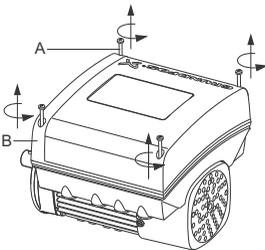

Fig. 73 Removing the terminal box cover
1. Loosen the four screws (fig. 73, A) and remove the terminal box cover (fig. 73, B).
11. Fit the terminal box cover (fig. 73, B) and cross-tighten the four mounting screws (fig. 73, A) to 6 Nm.